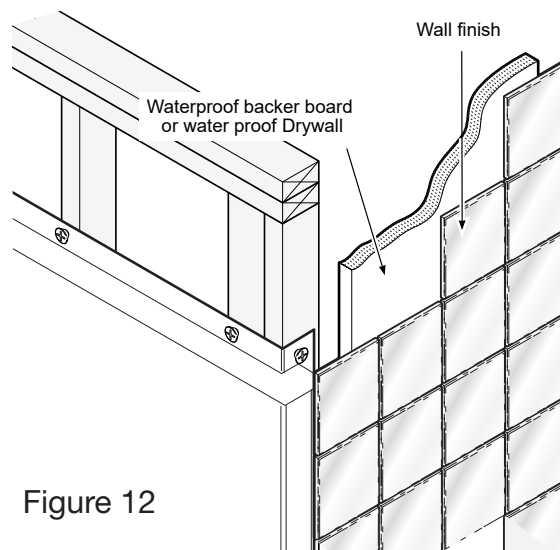

Figure 12
18. The shower threshold must be flat across the full width with no bow and be level to the floor. Finishing panels (plasterboard, ceramic tile, etc.) should completely cover the shower mount flanges. The joint between the wall panels and the finishing panels can be covered with a joint compound, a plastic strip or a tile strip. To prevent water infiltration, apply a bead of silicone caulk between the floor and the threshold of the unit. See Figure 12.